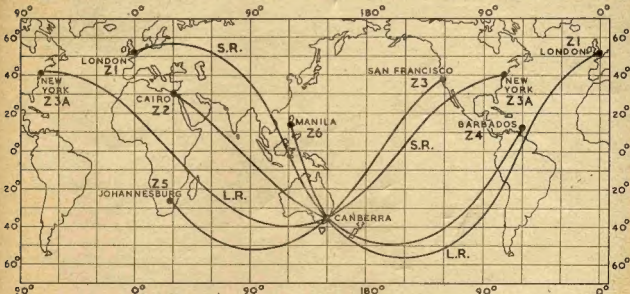

FIGURE 1. GREAT CIRCLES FROM CANBERRA TO THE AMATEUR ZONES.
**FORECASTING PROCEDURE** The maps in Figures 1 and 2 indicate the general basis for the Amateur band forecasts. The world includes seven principal zones, from the point of view of the